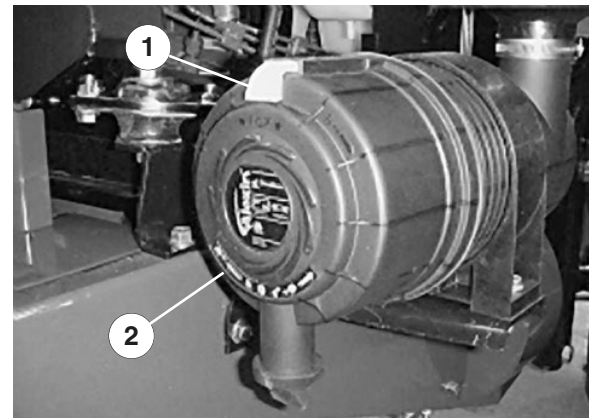

Figure 21
1. Pull the latch outward and turn the air cleaner cover counter-clockwise. Remove the cover from the body (Fig. 21). Clean inside of the air cleaner cover.